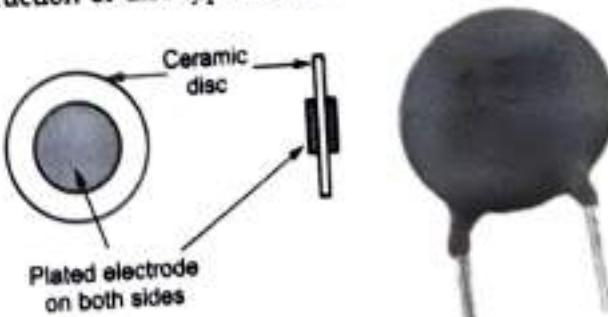

Fig. Q.5.3 Ceramic disc capacitor
- Construction of disc type is shown in the Fig. Q.5.3.